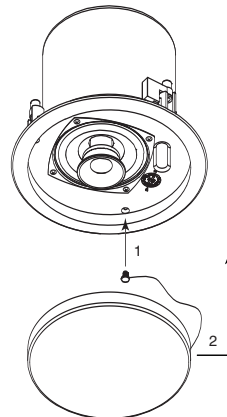

Figure 20: Attach the grille
Step 8: Attach the Grille (Figure 20)
First, install the grille's safety tether by pushing the grille fastener into the hole in the baffle (see Figure 20). Second, press the grille into place until the front of the grille is flush with the rim of the baffle. Make sure the grille is securely seated to prevent it from vibrating loose.